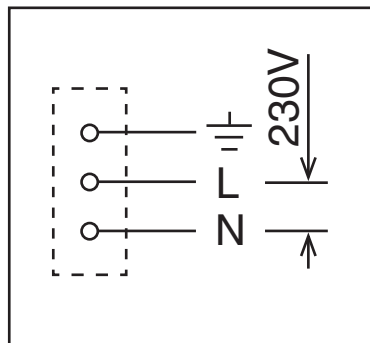

Fig. 3
4. Electrical connection must be made in accordance with the label provided next to the junction box. See Fig. 3.